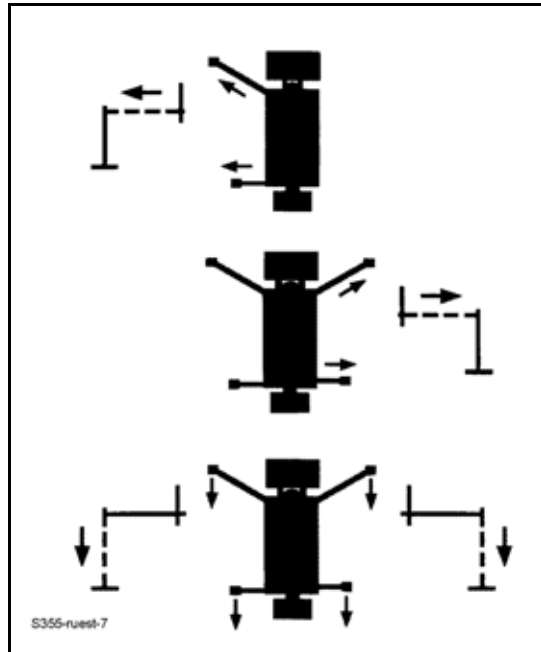

**Fig. 138 Axle safety catch**
- Swing the levers (1) (**Fig. 138**) forward on each side of the vehicle and secure with the safety bolt (2) (**Fig. 138**).